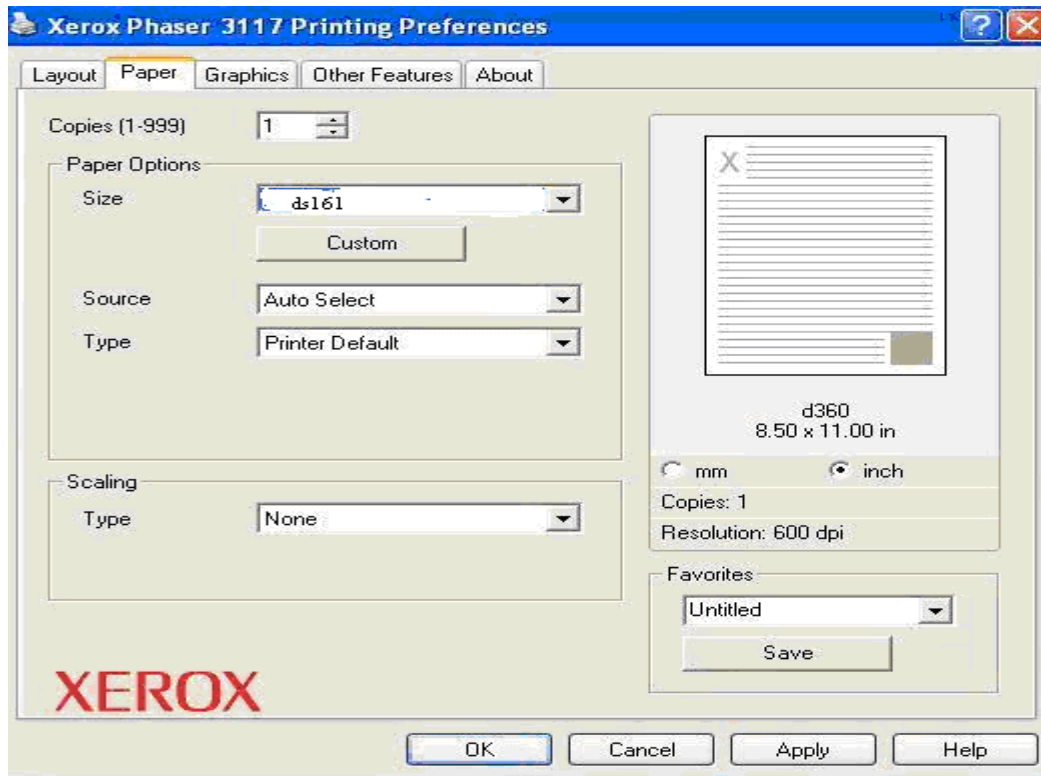

Figure 5-31
③ Setting in software, after running software, choose “degree” and “sheet size”, choose “ds161”, as shown in Figure 5-31 as follows.